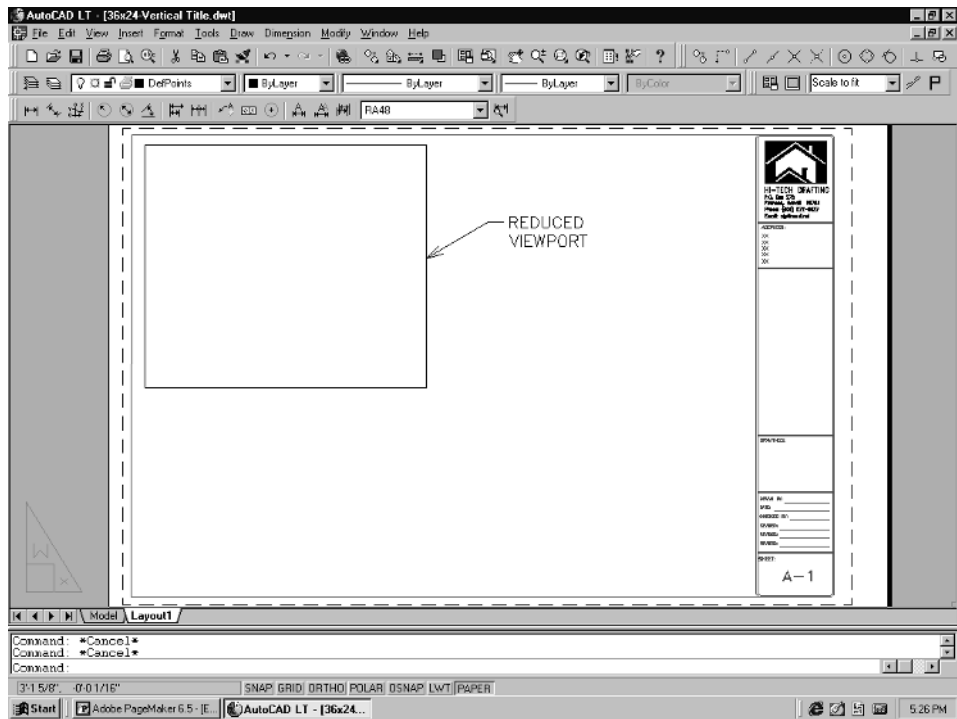

Figure 2-130
4. Pick on the viewport, which is the inside rectangle within the border. Pick on one of the “grips” and drag it inward so as to reduce the size of the viewport. Pick another of the grips and pull it in again so that you end up with a fairly small viewport, as shown in Figure 2-130.